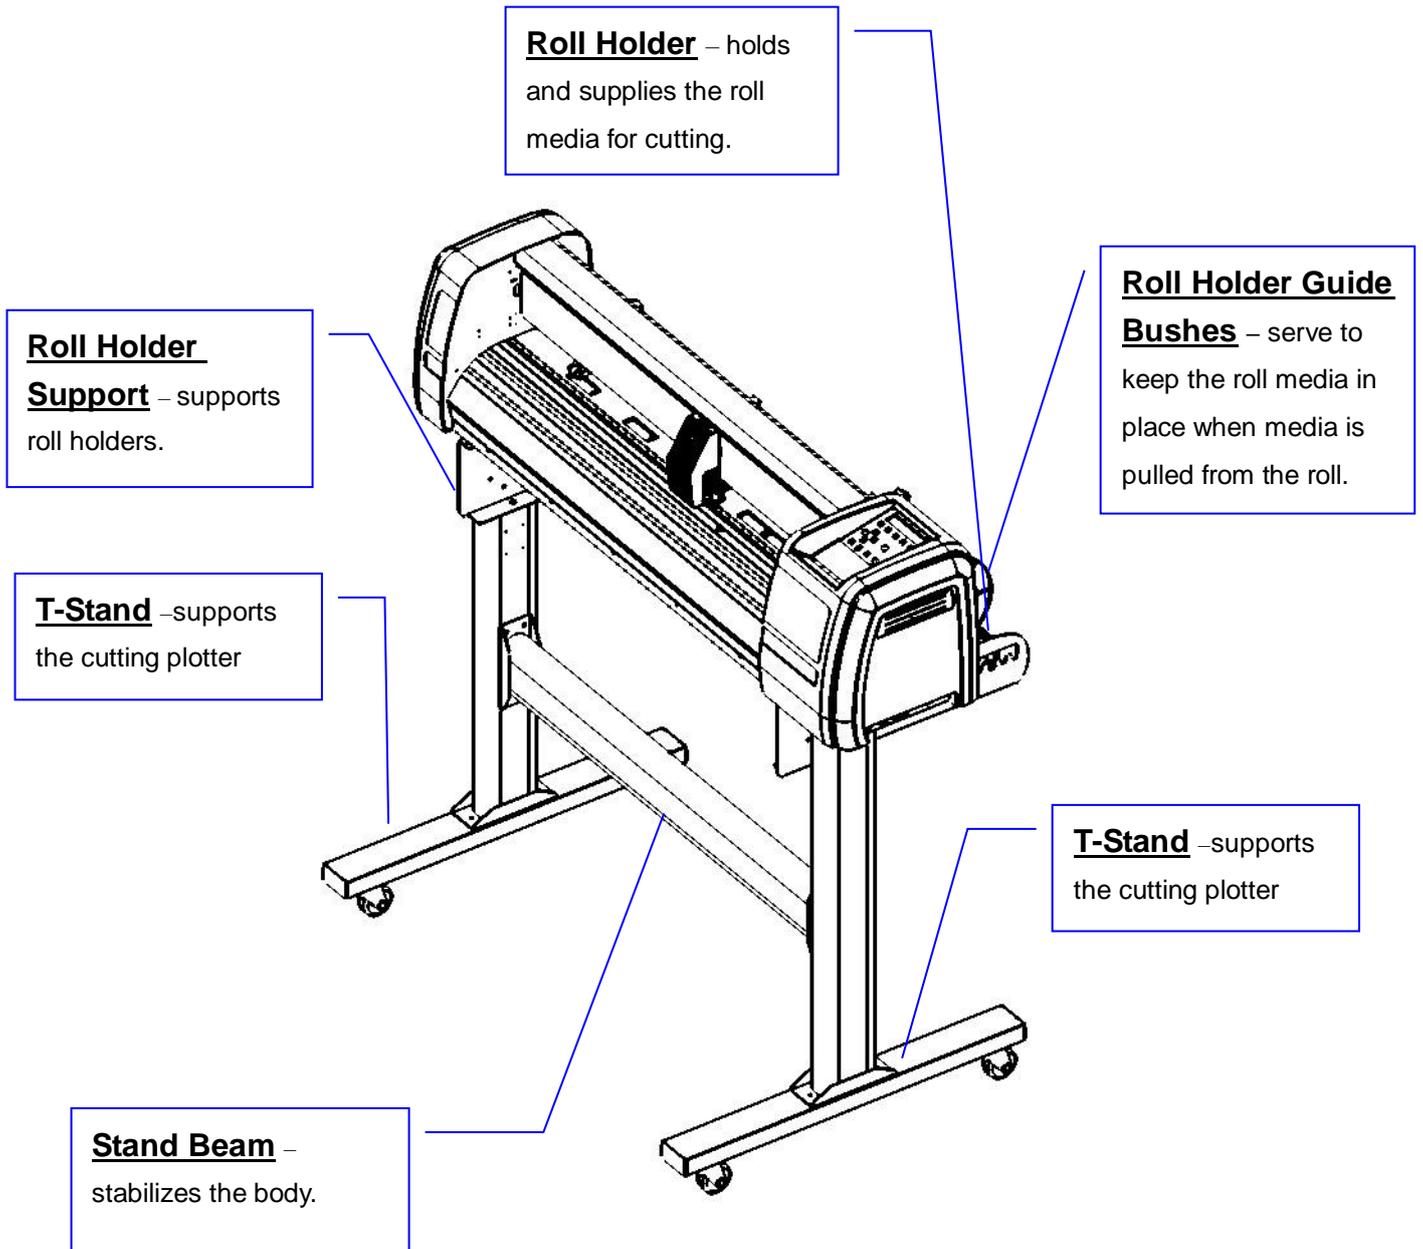

Figure 1-3
1.4.3 The Whole View of RX II Series (Figure 1-3)